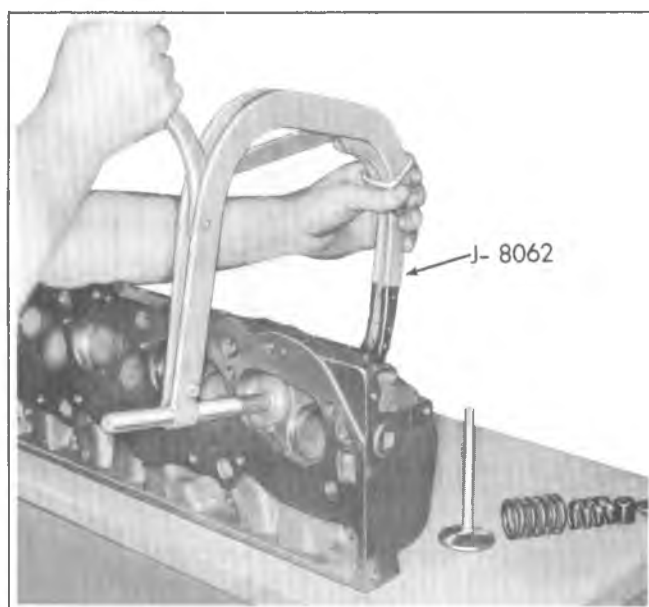

Fig. 6A5-18--Compressing Valve Spring
2. Using Tool J-8062, compress the valve springs (fig. 6A5-18) and remove valve keys. Release the compressor tool and remove rotators or spring caps, springs and spring damper, then remove oil seals and valve spring shims.
1. Clean all carbon from combustion chambers and valve ports using Tool J-8089 (fig. 6A5-19).
2. Thoroughly clean the valve guides using Tool J-8101 (fig. 6A5-20).